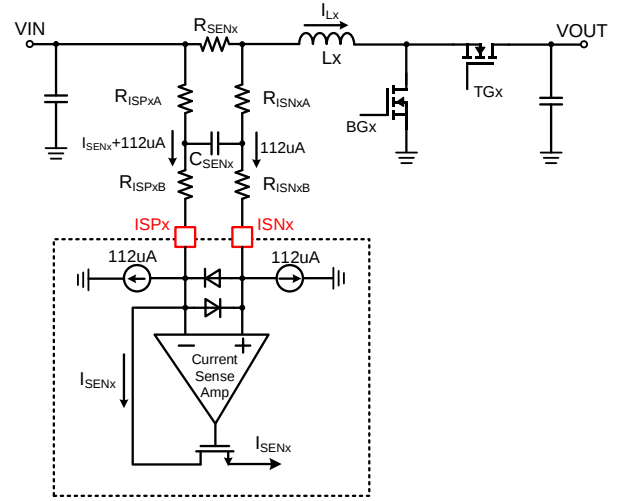

Figure 8. Current Sense Block
The sense current of each phase is used for peak current limit (OC1), peak current protection (OC2), constant current mode (CC), average overcurrent protection (AVG_OC), current balance, and phase drop functions in multi-phase applications. Figure 8 illustrates the internal circuit for the individual phase current sense module.
As shown in Figure 8, the RC network between the R_{SENx} and ISPx/ISNx pins is the recommended configuration. The ISPx pin should be connected to the positive terminal of R_{SENx} through the resistor R_{ISPx} . R_{ISPx} is used to set the current sense gain externally and is composed of R_{ISPxA} and R_{ISPxB} .
There is a 112 μA bias current sink, connected to the ISPx and ISNx pins. The ISNx pin should be connected to the negative side of R_{SENx} through resistor R_{ISNx} . R_{ISNx} is composed of R_{ISNxA} and R_{ISNxB} and should have the same value as R_{ISPx} . It is recommended to set R_{ISPxA} equal to R_{ISNxA} and R_{ISPxB} equal to R_{ISNxB} , and to insert a capacitor C_{SENx} between them, as shown in Figure 8. The symmetrical circuit will help filter noise from the small current sense signals.